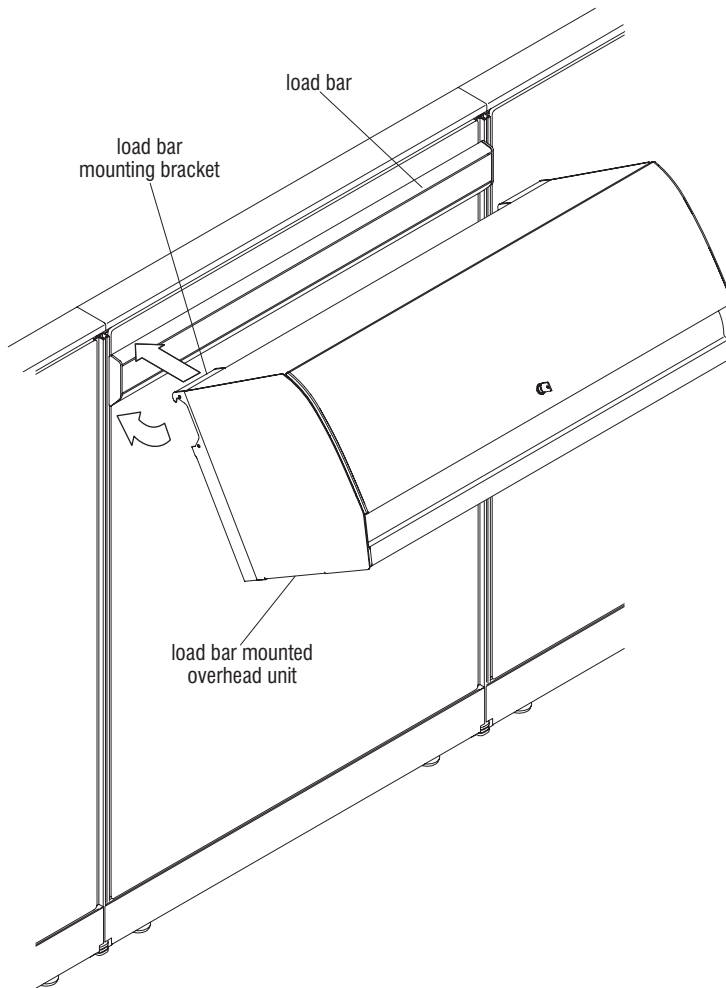

Figure 4
1. To hang overhead units on a load bar, rotate the bottom of the overhead unit out approximately 30° and hook the load bar mounting bracket onto the top of the load bar. Rotate overhead down until unit is secured in place (Figure 4).